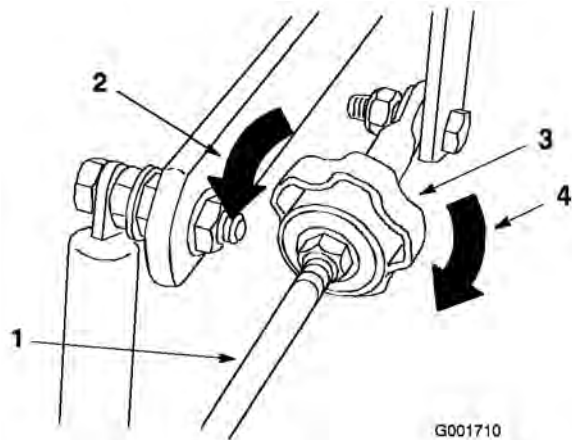

Figure 47
4. Adjust the tracking as follows (Figure 47):